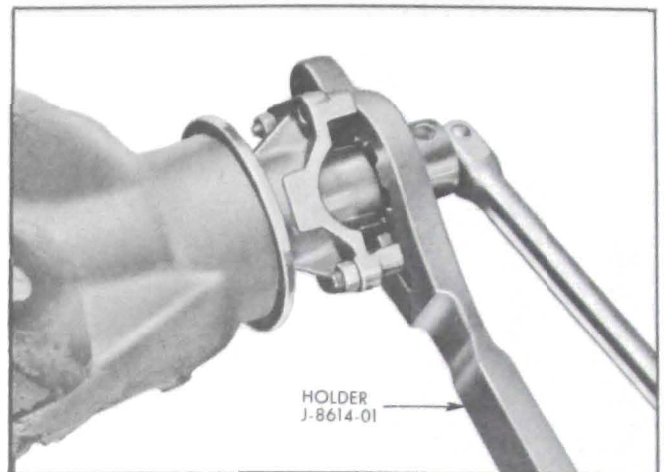

Figure 6-14—Removing Pinion Nut
3. Install Holder J-8614-01 on pinion flange using two 5/16 - 18 x 2 bolts with flat washers. Remove pinion nut and washer. See Figure 6-14.